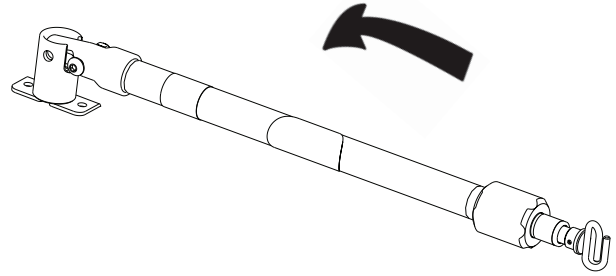

Figure 34 – IV pole storage position
1. Lift and pivot the IV pole from the storage position and push down until the IV pole locks into the receptacle (A).
2. To raise the height of the pole, turn the locking collar (B) counterclockwise and pull up on the telescoping portion (C) of the pole to raise it to the desired height.
3. Turn the locking collar (B) clockwise to lock the telescoping portion in place.
4. Hang the IV bags on the IV hook (D).
5. Turn the locking collars (B) counterclockwise and slide section (C) into the bottom tube.
6. Turn the locking collars (B) clockwise to tighten.
7. Lift up and pivot the pole down into the storage position (Figure 34).